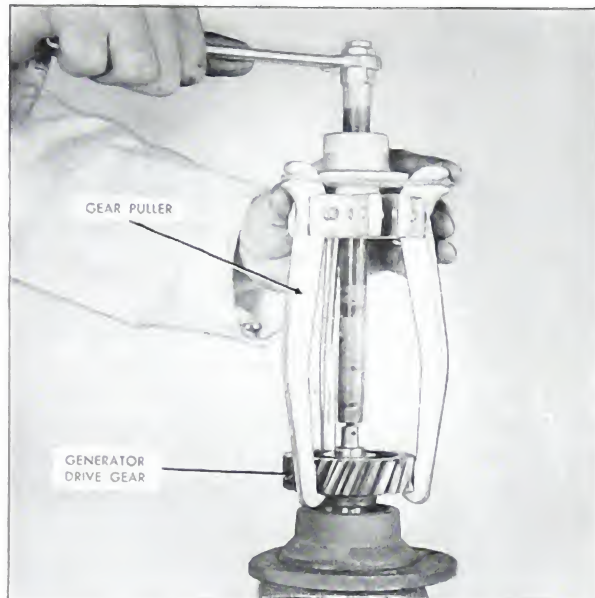

Fig. 9-1. Pulling generator drive gear
3. Pull the gear from shaft or press it from the shaft using a set of parallels under the gear. (Fig. 9-1).